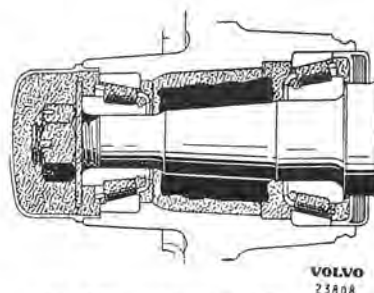

Fig. 7-26. Lubrication of front bearing
8. Grease the bearing with the help of a pressure greaser. If there is not one available, pack the bearings by hand with as much thick grease as there is room for between the roller retainer and inner ring of the bearing. Also apply grease to the outer sides of the bearings and on the outer rings pressed into the hub. The recess in the hub is filled with grease all round up to the smallest diameter of the outer ring of the outer bearing, see Fig. 7-26.